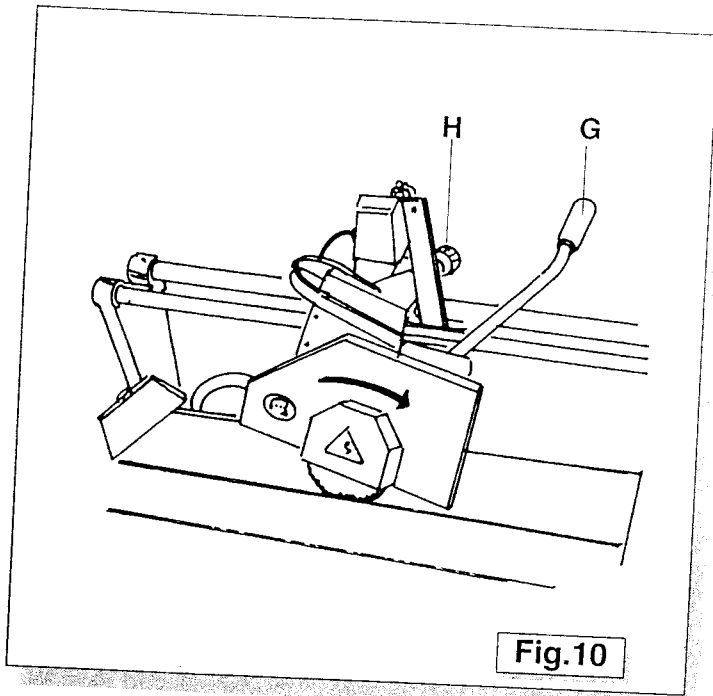

Fig.10
- On Models FRS-30 and FRS-38 you must pull the handle **G** (Fig. 10) downwards to set depth of cut and lock in position by tightening Knob **H** (Fig. 10).
- Carefully pull handle **F** (Fig. 10) & **G** (Fig. 10) to advance the cutting blade through the material.